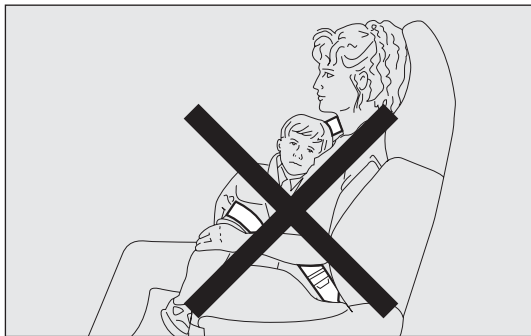

fig. 111
*Each seat belt must be worn by one person only; passengers should not have babies or children on their lap and use the belts to protect both of them fig 111. In general, do not use the seat belts to hold any object against the body.*